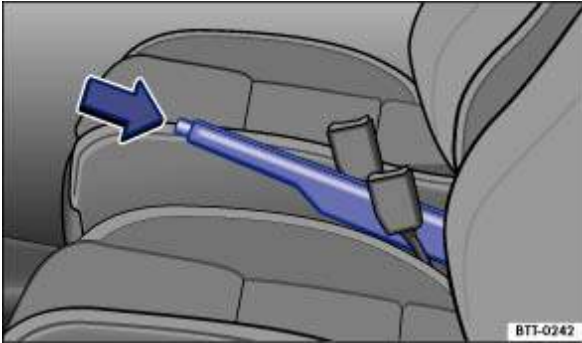

Fig. 122 Handbrake between the front seats
- Pull the handbrake lever up firmly with the locking button → Fig. 122 (arrow) pressed.
- Lift the handbrake lever up slightly and press the lock button in direction of arrow → Fig. 122.